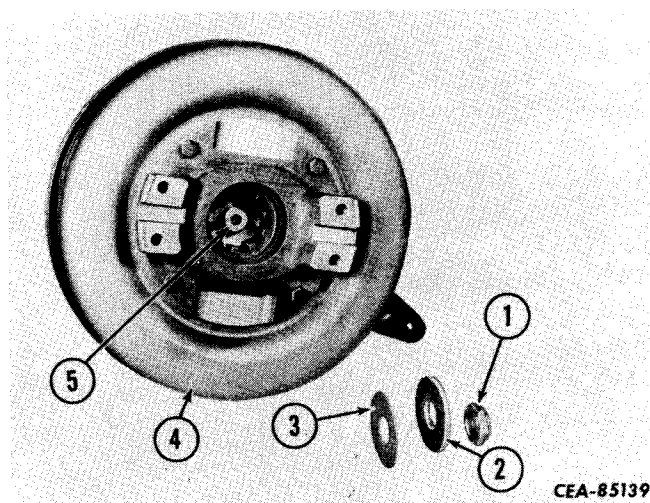

Figure 13-101
Remove the locknut (1, Fig. 13-101), retainer (2), and seal washer (3) that secure the yoke and drum assembly (4) to the transfer drive shaft (5).